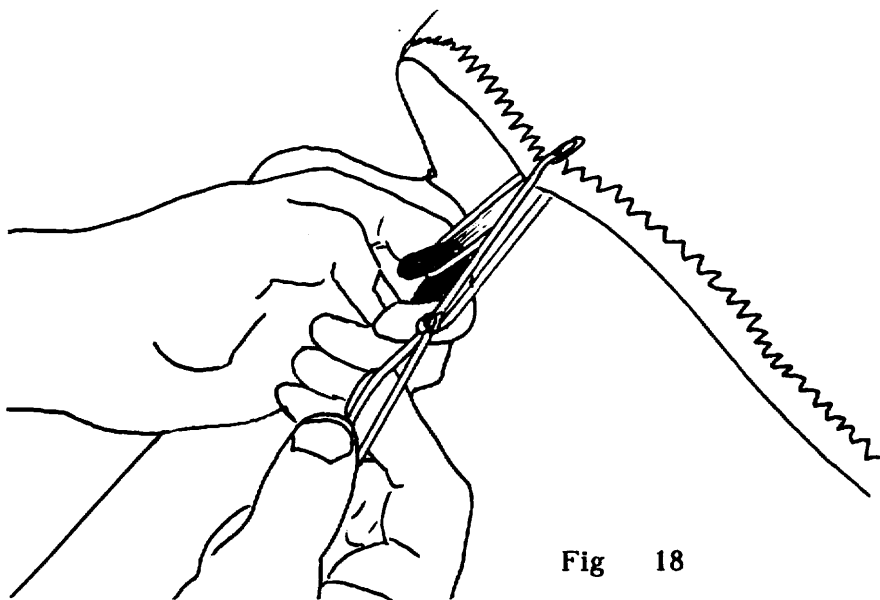

Fig 18
11) Secure the rear end of each top surface batten by first looping one loop of leech line around the notched batten end, and then attaching the second loop, using the extra loop as a handle. (Fig 18) When attaching the leech line loops at the reflex bridle battens, be sure the bridle cable is not caught underneath or wrapped around the leech line.